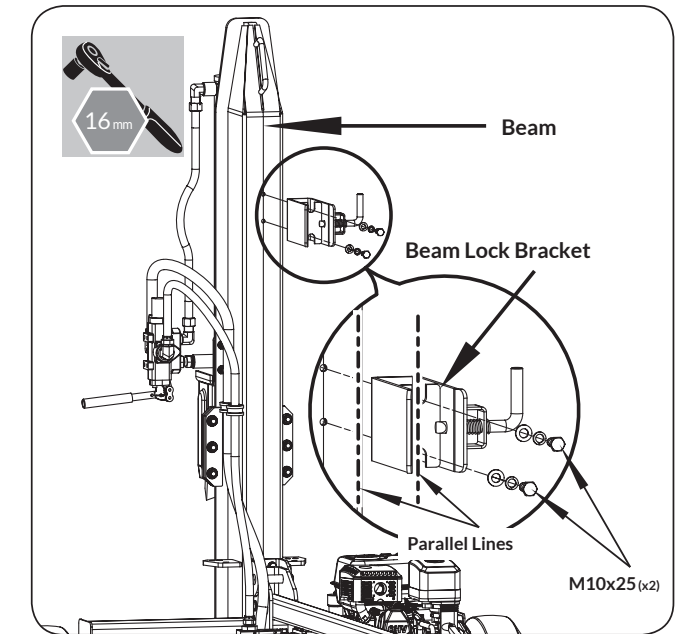

Figure 8a
- When mounting the lock latch assembly, make sure the latch rod side of the bracket is on the same side as the engine. Install the beam lock bracket to the beam by using the beam lock M10x25 bolts, spring washer, and flat washers. (See Figure 8a)